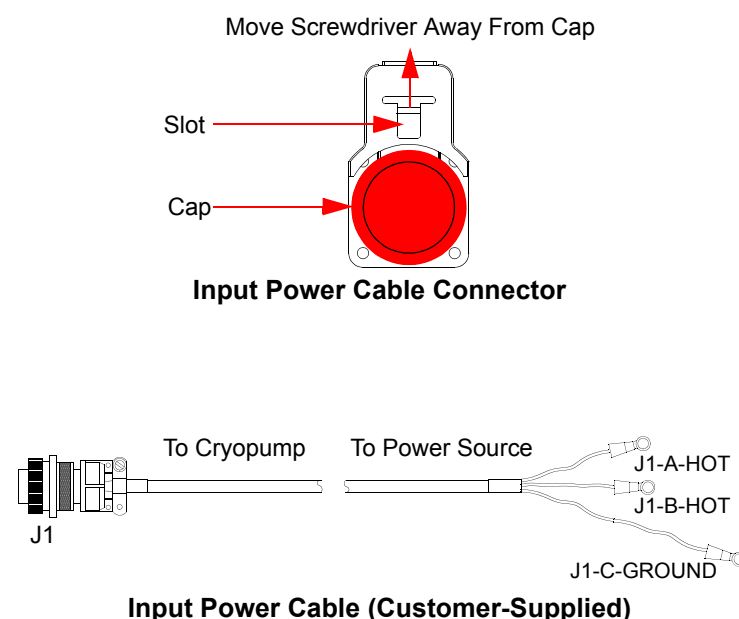
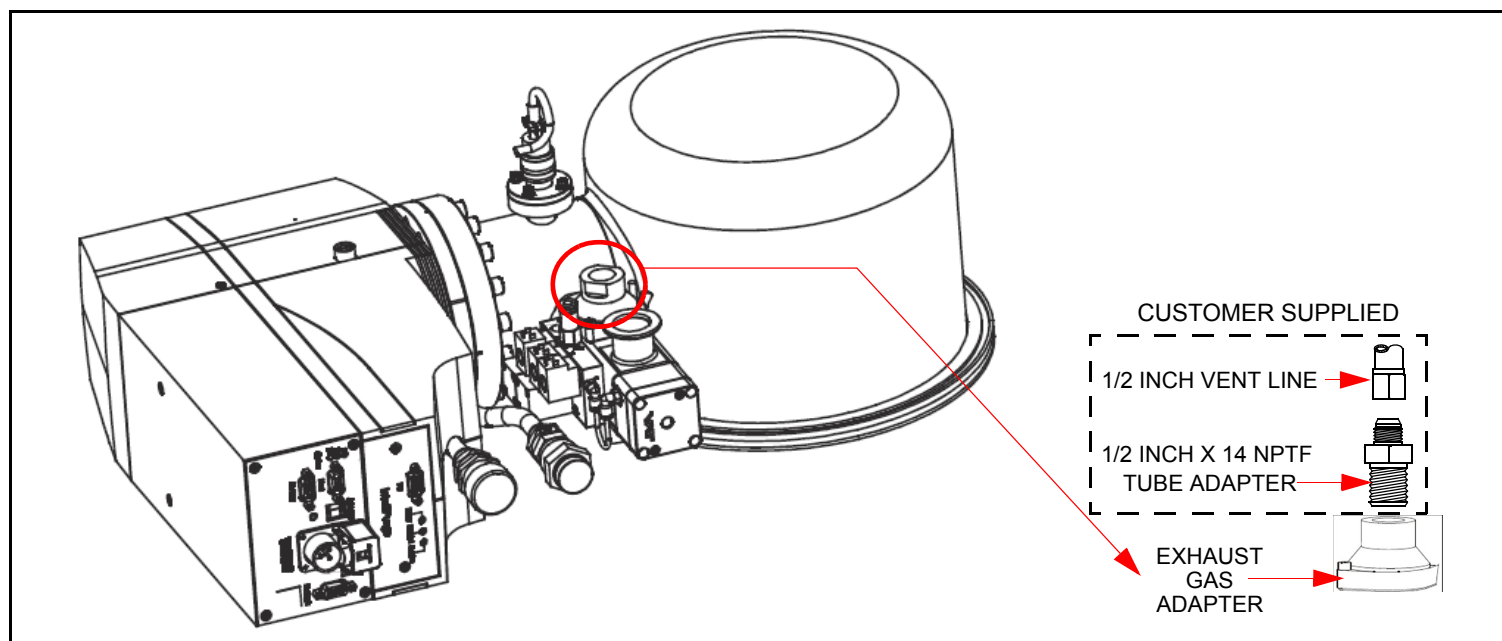

Figure 2: Input Power Cable Connector and Input Power Cable
Figure 3: Relief Valve Exhaust Connection
See the following numbered steps in *Figure 1*, *Figure 2*, and *Figure 3* for cryopump installation connections.
- 4 Connect exhaust relief valve (*Figure 2*).
- 13 Remove cap and connect Input Power Cable (*Figure 2*).